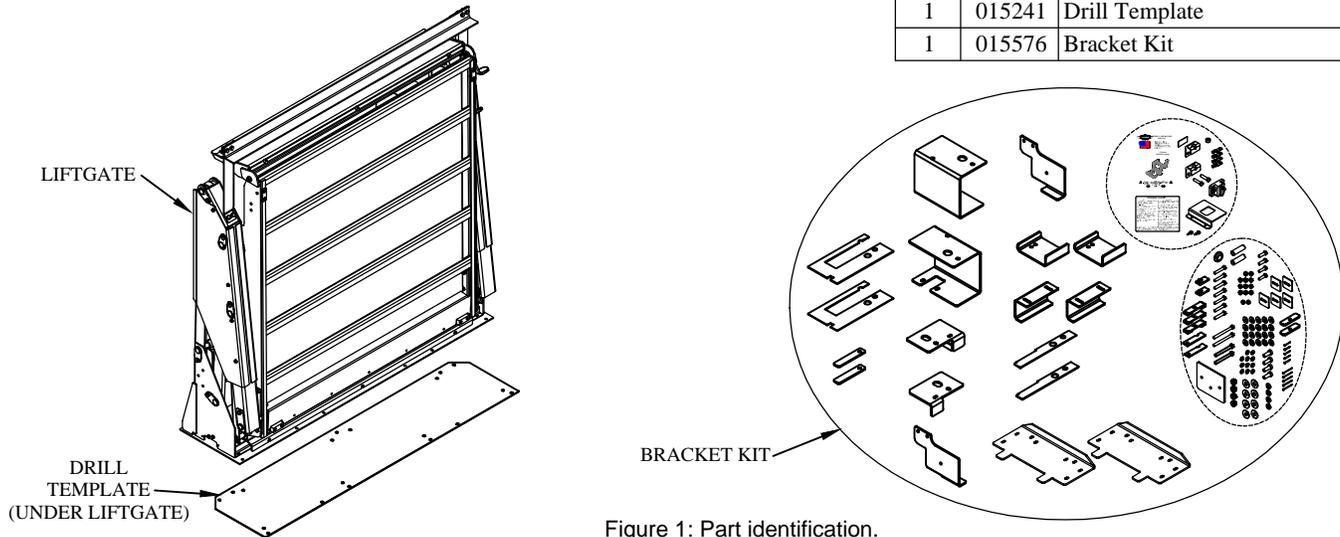

Figure 1: Part identification.
2. **Verify** mounting kit, liftgate, and other components (Figure 1 and Table 1).